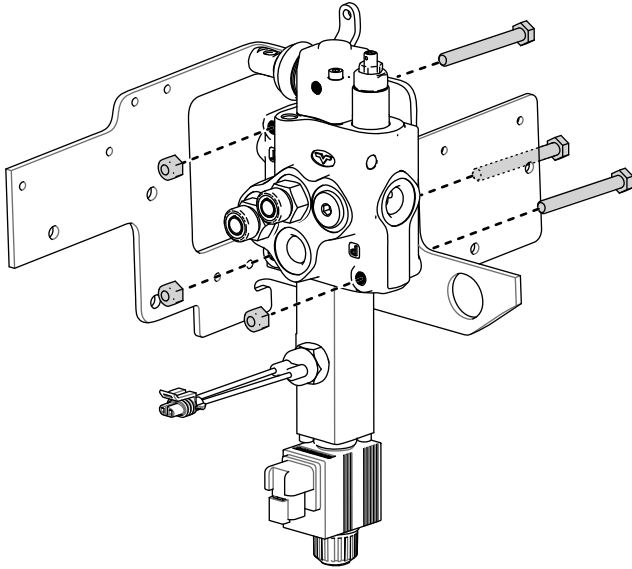

Figure 14
2. Secure the auxiliary valve to the bracket with the front 3 bolts and nuts (Figure 14).
Important: Ensure that the bolts are oriented as shown in Figure 14.